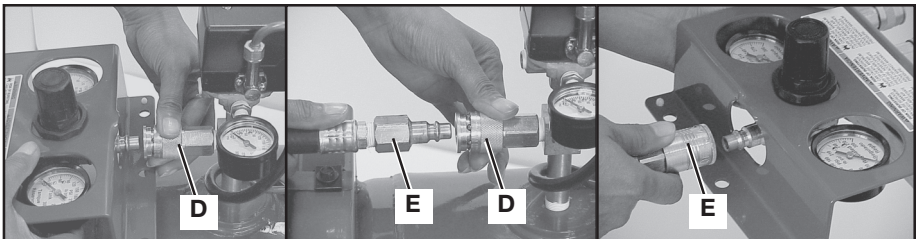

Fig. 5
1. Hold “quadraport” and pull quick-connect coupler (D) back to release and remove as shown in Figure 5.
2. Attach one end of a 1/2” hose (E) with 3/8” quick-connect back flow safety check valve (provided in kit) as shown in Figure 5. Make sure quick-connect coupler is secure.
3. Attach the other end of the 1/2" hose (E) with 3/8" industrial quick-connect body (purchased separately) to the "quadraport" as shown in Figure 5.